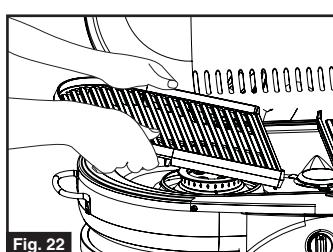

Fig. 22
- Place a grill grate, griddle, or stove ring over each burner. (Fig. 22, 23, and 24)